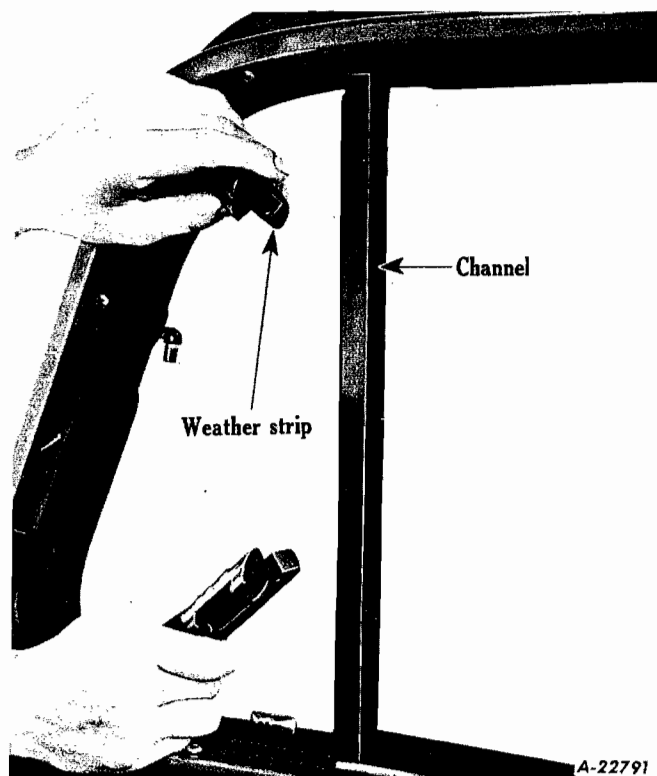

Fig. 32
8. Remove door vent glass window weather strip (Fig. 32).